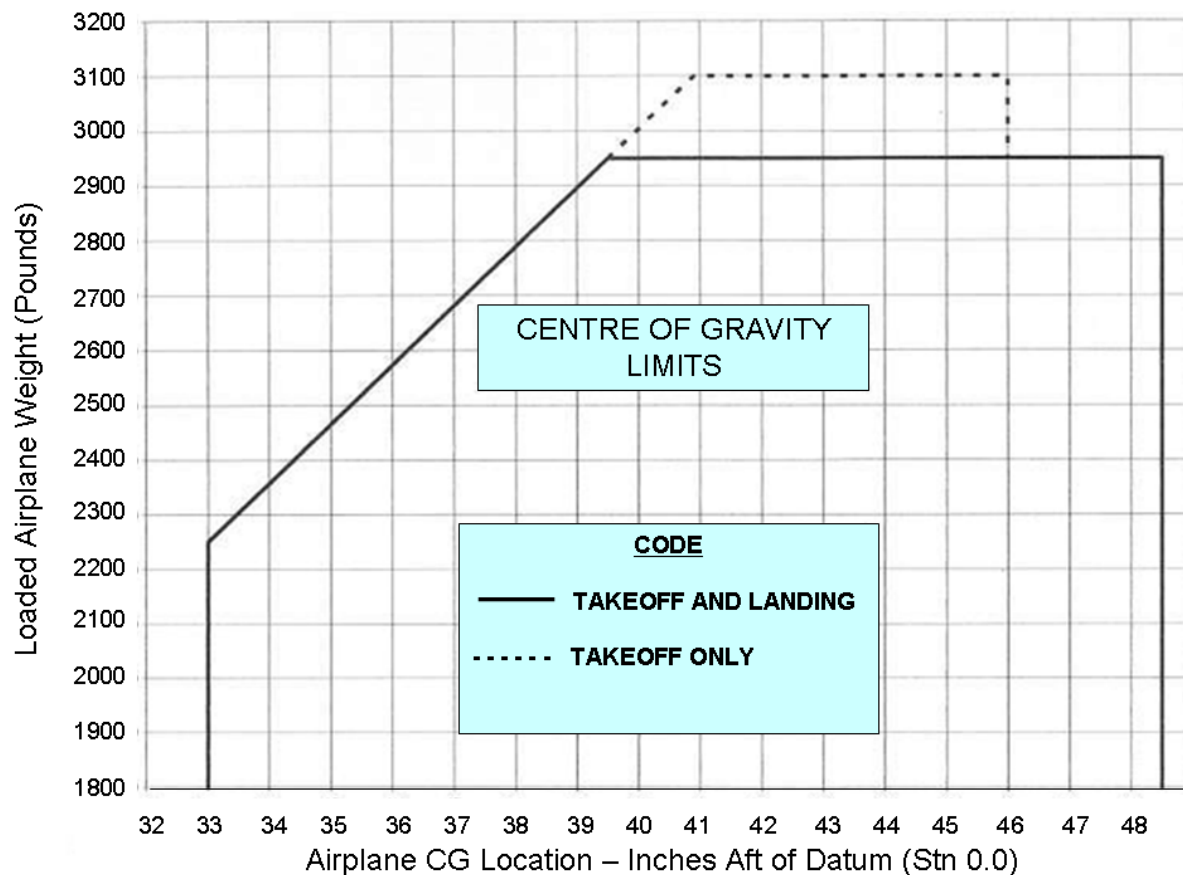

Figure 4-1 Centre of Gravity Limits
22. Figure 4-1 below details the weight and centre of gravity limits: